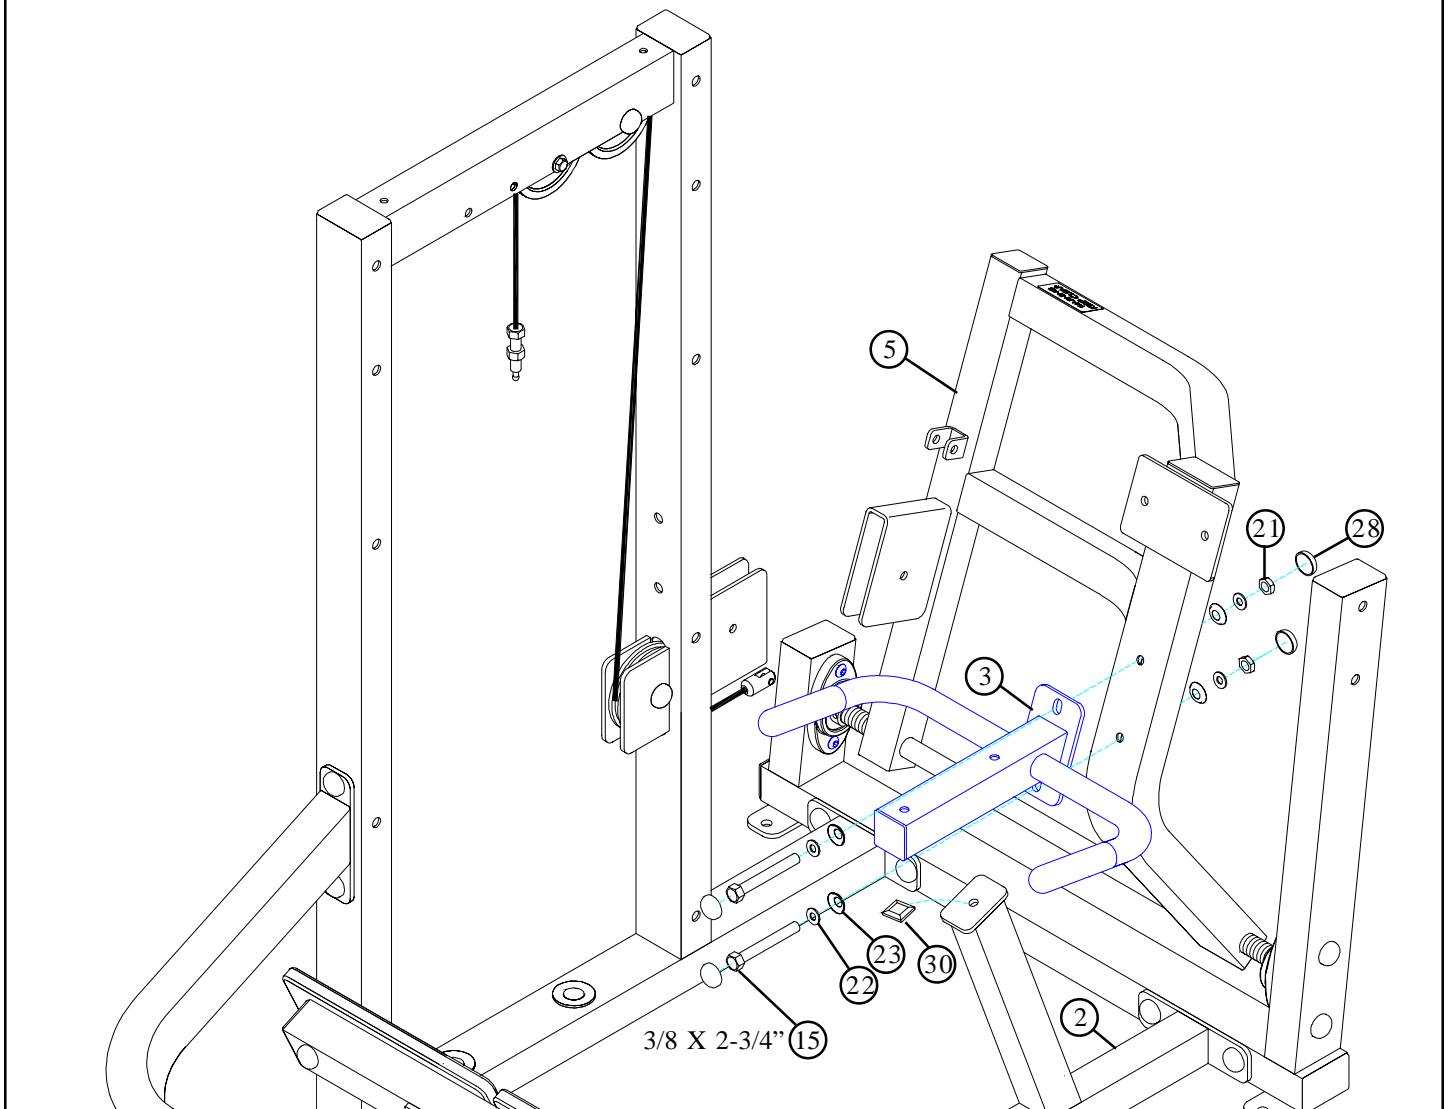

**FIGURE 7**
- **SECURELY** assemble the BACK PIVOT (5) to the REAR FRAME (6) using four previously inserted 3/8 X 3" BUTTON HEAD CAP SCREWS (17), four RH WASHERS (23), four 3/8" SAE WASHERS (22), four 3/8" LOW HEIGHT LOCK NUTS (21) and four RH CAPS (28) as shown in FIGURE 7.
- **IMPORTANT!** When BACK PIVOT (5) is centered and level in the PILLOW BLOCKS (25), tighten the PILLOW BLOCK set screws.